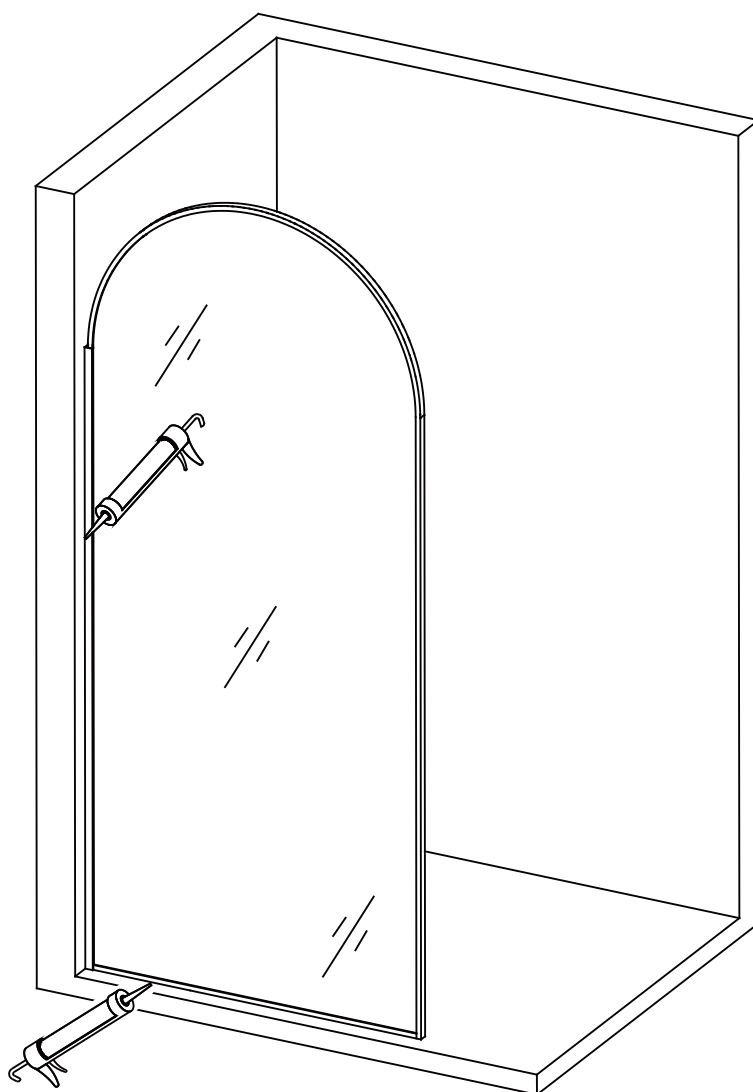

Fig 4
1. Apply a **high-quality silicone sealant** at the corner where the **Bottom Rail [05]** meets the **threshold**, as well as at the corner formed by the **Shower Panel [04]** and the wall. (Refer to Fig. 4)